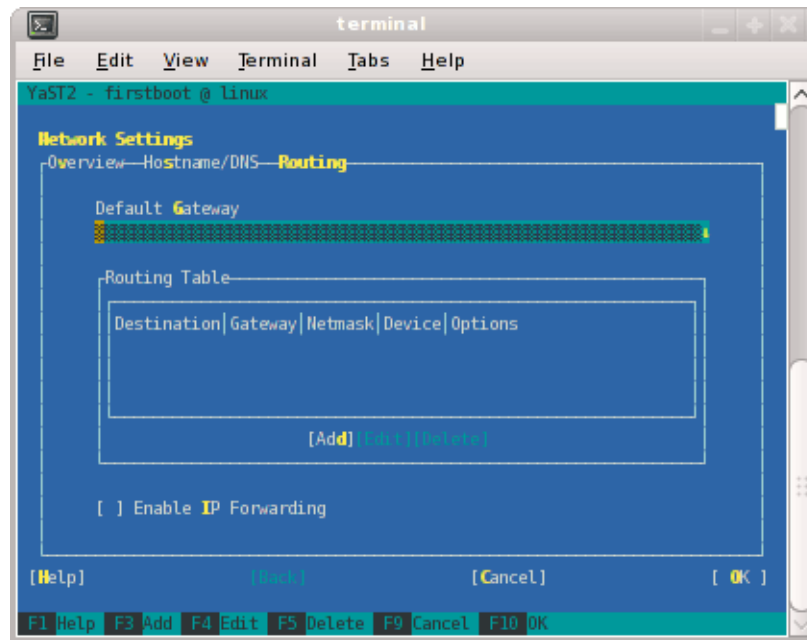

Figure 1-12 Network Settings Routing Screen
10. Select **Routing** shown in Figure 1-12 on page 19 and enter your house/public network default router information there. Now you can select **OK**.